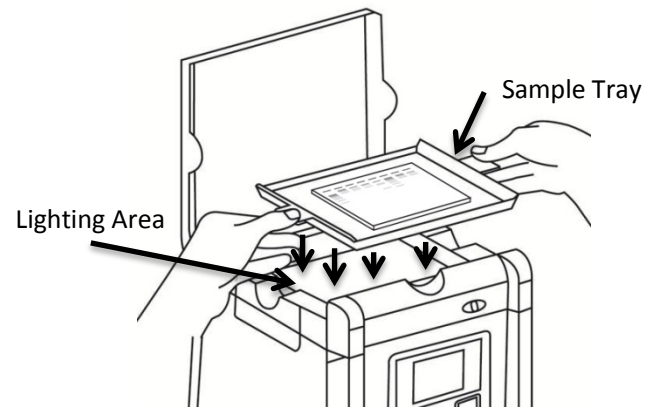

Figure 5
7. Place gel tray directly on the surface of the Lighting area (**Figure 5**).